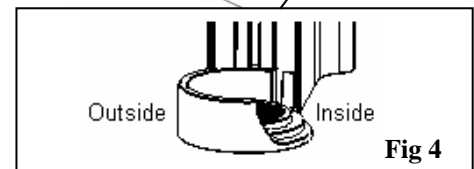

Fig 4
3. Insert Fixed panel **B** into the wall profile (do not fix it to the wall profile). Ensure the brackets **BS6001** are facing in the correct direction. **Fig 4**